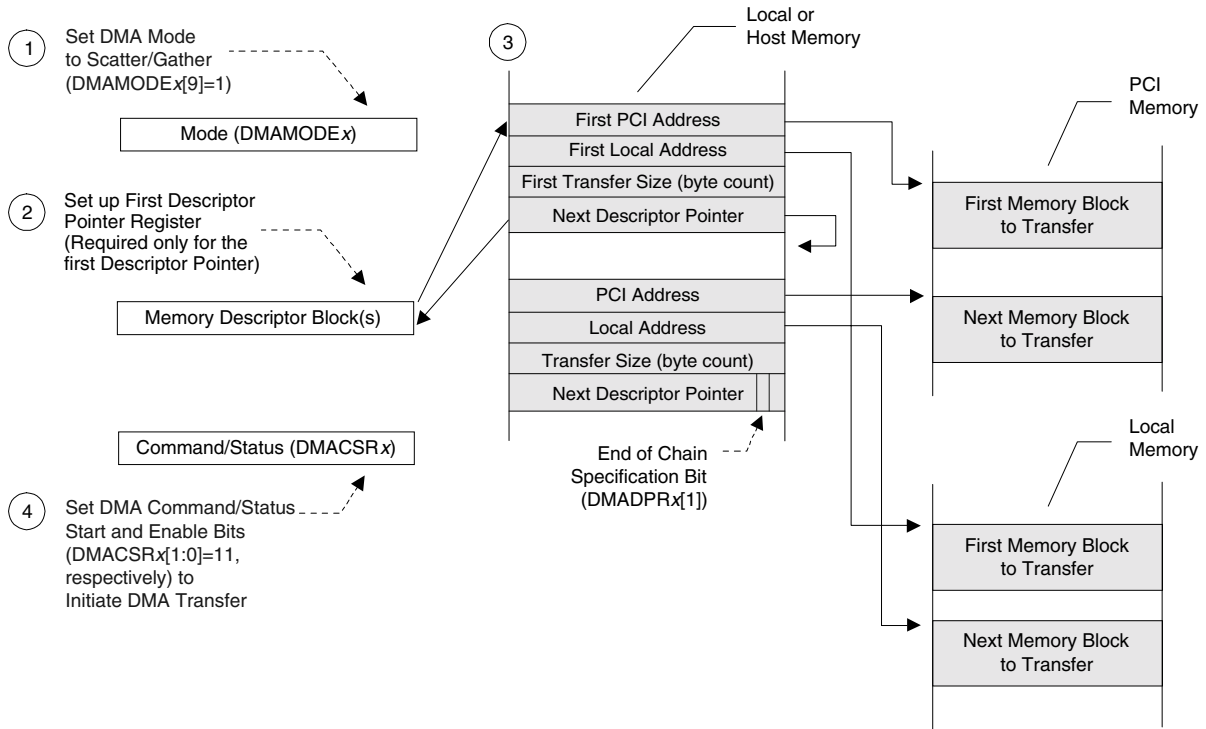

Figure 5-17. DMA Scatter/Gather Mode Descriptor Initialization [PCI SAC/DAC PCI Address (DMADACx) Register Dependent]
- DMADACx contain(s) a non-zero value. DMAMODEx[18] is set to 0. The PCI 9056 performs a Single Address Cycle (SAC) 4-Word descriptor block load from PCI memory and DMA transfer with DAC on the PCI Bus. (Refer to Figure 5-17.) The DMA descriptor block starting addresses should be 16-byte-aligned.